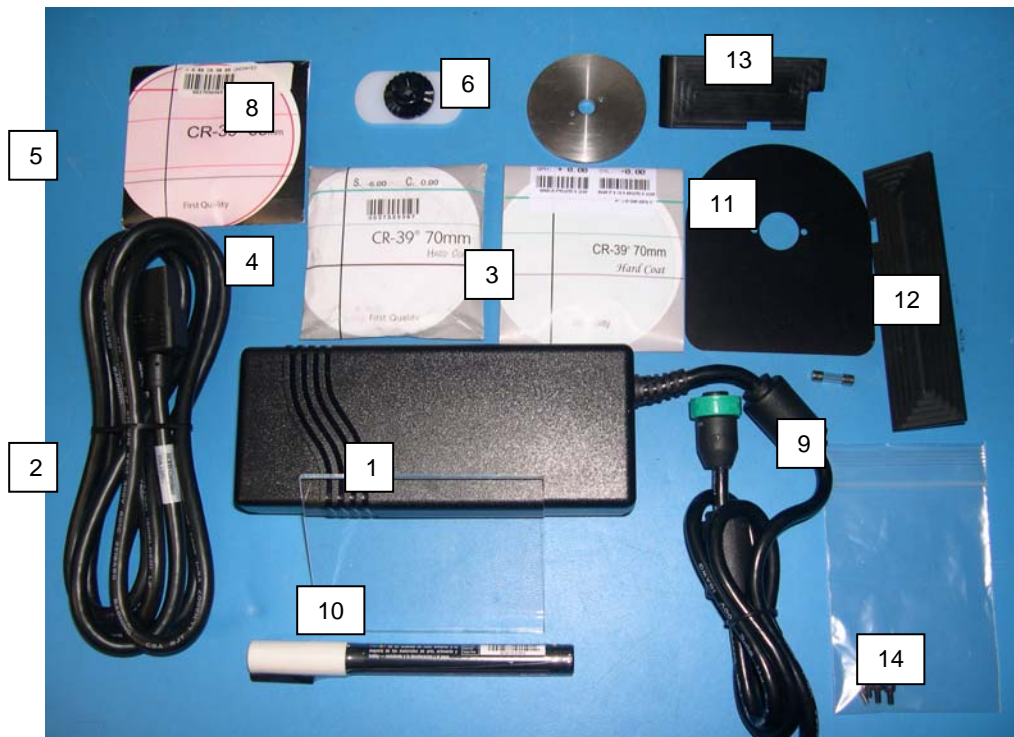

Figure 1.4 – Accessory Kit
Inspect the contents to ensure you have all the items listed below. (See Fig. 1.4). There should be 14 items in the two inserts. They are:
15. Clarity User Guide (not shown in Fig. 1.4)